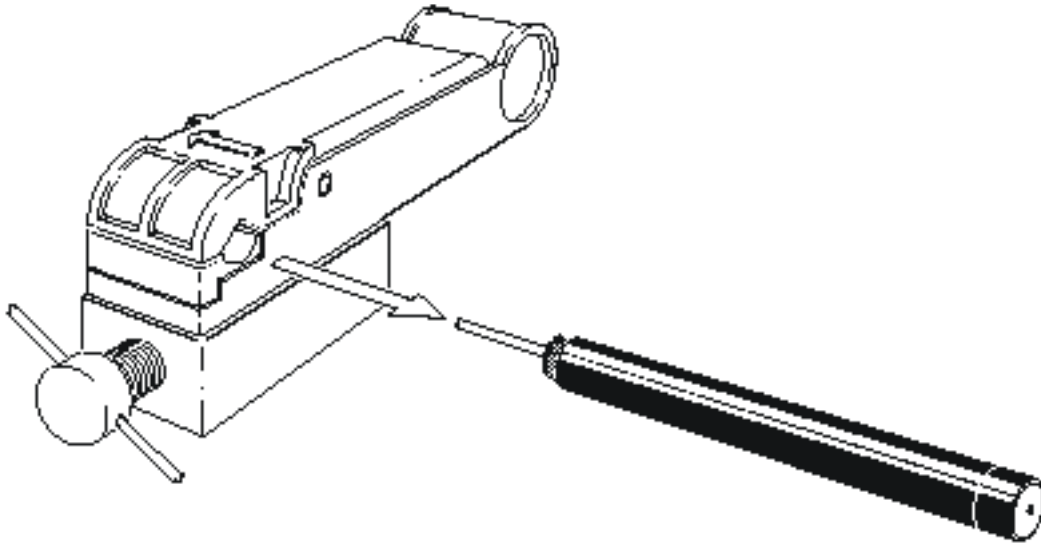

Figure 31 – Exposing the shield and center conductor
4. Grasp the front of the tool firmly and pull the cable from the tool to expose the braided shielding and the center conductor; see Figure 31.